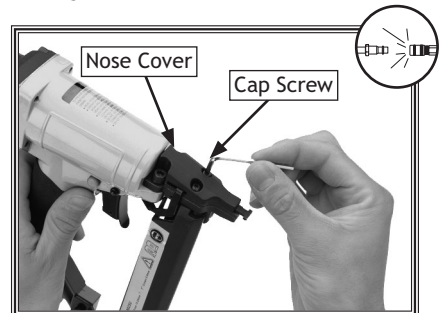

Figure 8. Loosening cap screws on cover.
4. Loosen the cap screws shown in Figure 8, and remove the nose cover.